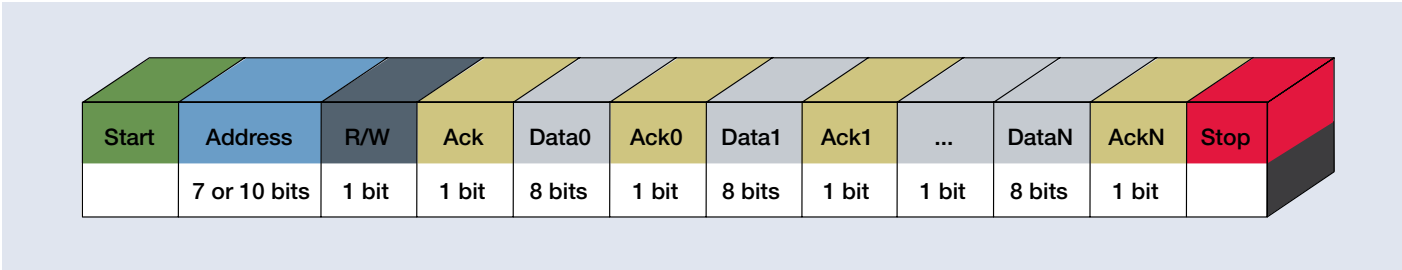

Figure 4. I²C message structure.
- The I²C standard specifies the following format in Figure 4: